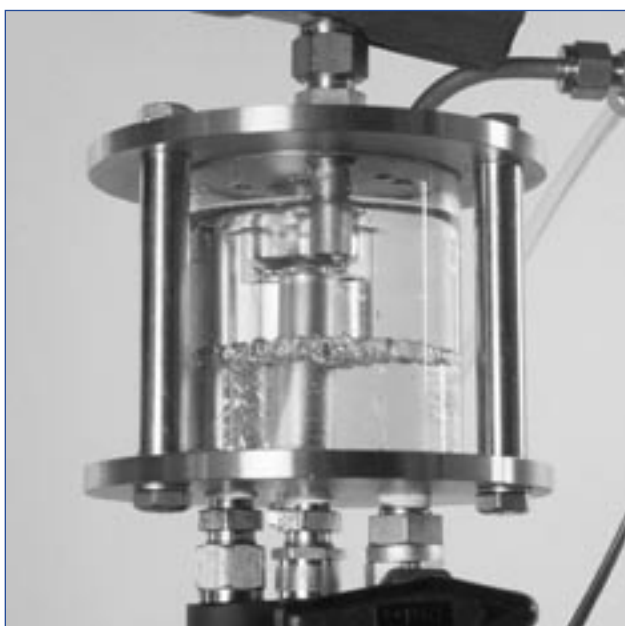

Fig. 7:
- demonstration of azeotropic distillation (Fig. 7)